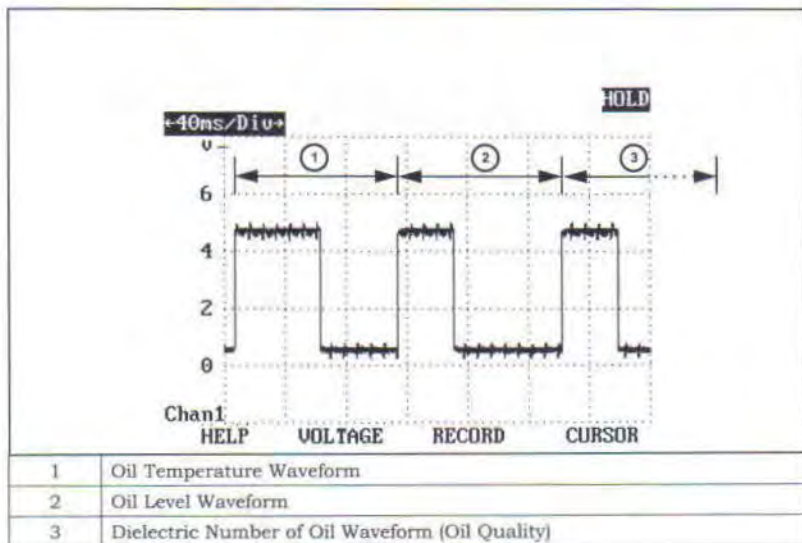

Figure 228 Oil Sensor Signal
Figure 228 shows the pattern of the oil sensor. The first waveform (1) represents the oil temperature. The duty-cycle lower limit is 20%, which indicates an oil temperature of -40° . The upper limit is 80%, which indicates an oil temperature above 160°C .